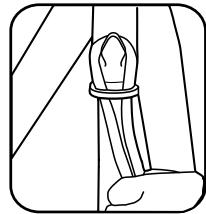

Fig. 2
2. Pull down on the power cord to remove any slack (Fig. 2).